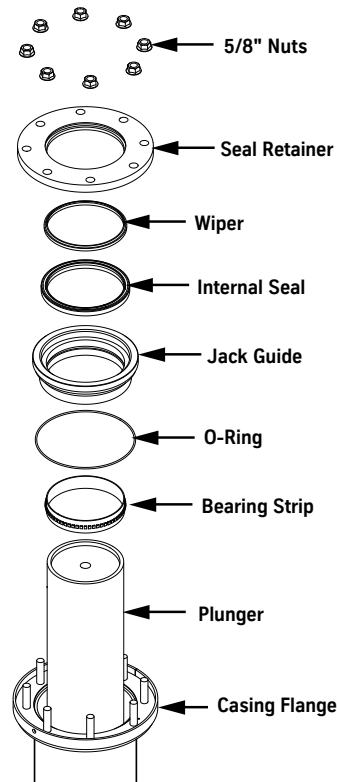

Figure 15 - Guide Assembly Sequence
- Position the casing flange gasket between the guide assembly and casing flange in the casing flange groove. See Figure 15.